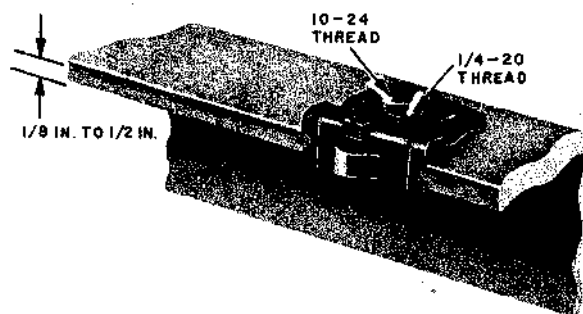

Fig. 2 — B Beam Clip, Top View
2.01 Two holes are provided on one side of the clip (Fig. 2). One hole accepts a 10-24 machine thread and the other a 1/4-20 machine thread. These accommodate B or M bridle rings or a machine threaded screw.
3.01 To install, place open end of clip against flange of beam and tap opposite corners of the clip until it is firmly seated (Fig. 2 and 3).